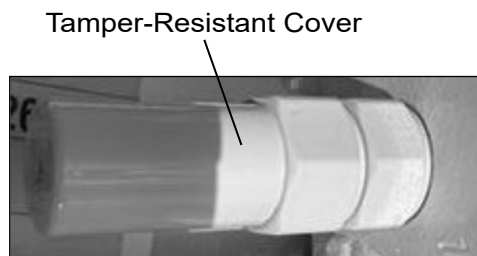

Figure 5 — Correct Counterbalance Valve
- If there is a tamper-resistant cover on the end of the cartridge, the counterbalance valve is correct (refer to Figure 5).